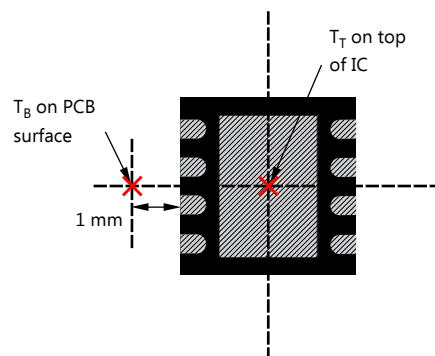

Figure 23. Measuring Points for T_T and T_B
- T_B is the PCB temperature measured 1 mm away from the device package on the PCB surface (as shown in Figure 23).
- (5)